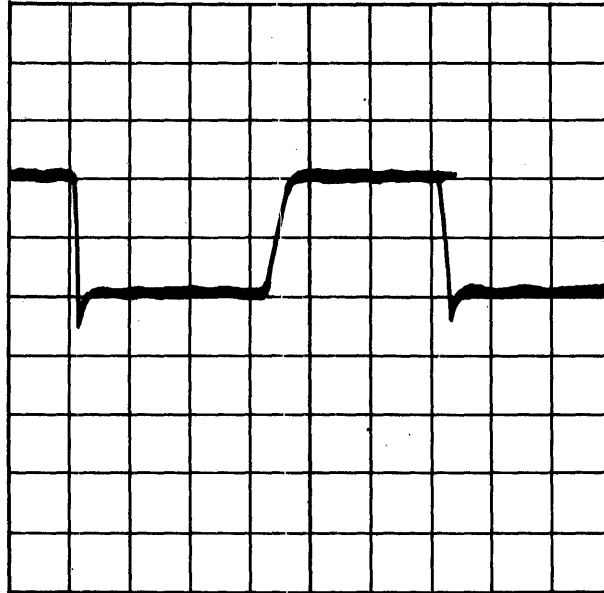

Figure 5-41. Data Separator Maximum
- M. Record this pulse width time. The oscilloscope display should appear as shown in Figure 5-41.